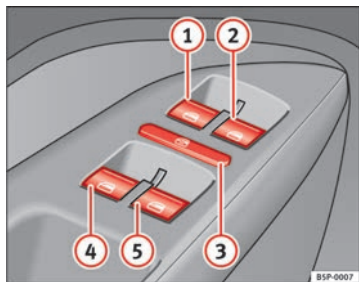

Fig. 67 Detail of the driver door: controls for the front and rear windows
The buttons → Fig. 67 ① and ② have two levels for opening the window and two for closing it. This makes it easier to open and close windows to the desired position.